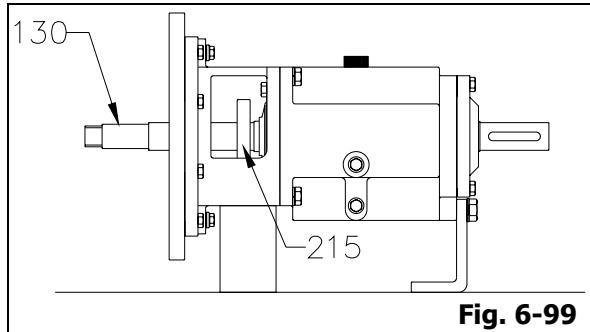

Fig. 6-99
4. Install seal cover (215) assembly carefully onto shaft (Fig. 6-99).